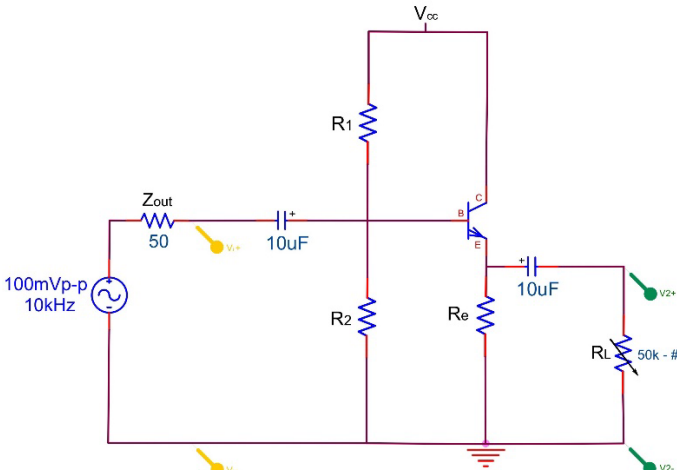

Figure 8.8
- Remove the series resistance and reconnect the signal generator directly to the amplifier input. Remove the 5KΩ resistor from the amplifier output. Measure and record the amplifier output voltage. This is v_1 . Replace R_L with different values (see Figure 8.8) until the output voltage drops to approximately one half v_1 . This output voltage is v_2 . Use the following equation to calculate the output impedance of the amplifier: